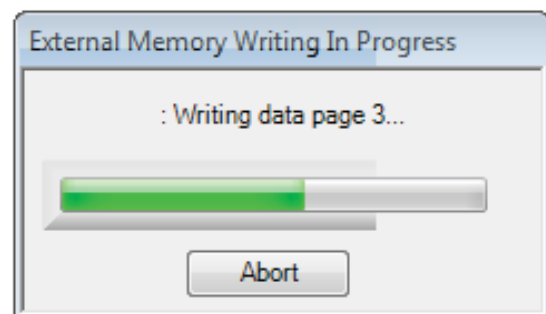

Figure 77. External Memory Write Operation Status Window
9. **SigmaStudio** begins the EEPROM write operation. This operation can take several minutes to complete (see Figure 77). When the status window disappears, the operation is complete.